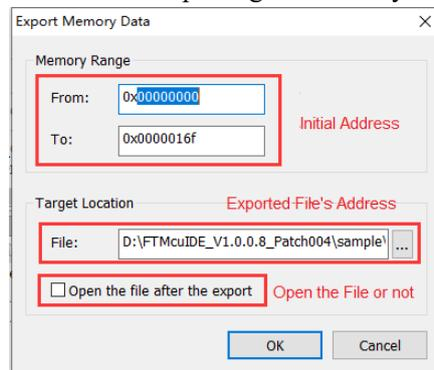

Figure 1-54
**Export Memory Data:** Export the data of the currently selected memory space, as shown in Figure 1-54. First, enter the start and end address of the exported memory space, then select the address of the exported file, and then select whether to open the file after export. If selected, open the file after the end of the exported file, and finally click OK to finish exporting the memory data.